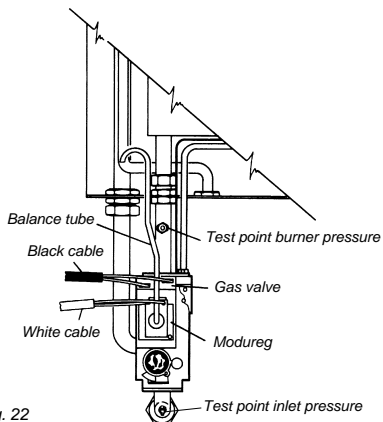

Fig. 22
- Loosen the screw in the burner pressure test point (fig. 22) and attach a gauge.
- e. Disconnect one of the wires from the «Modureg» (fig. 22), this will reduce the burner to minimum which should read 2.7 mbar \pm 0.5 mbar. If the burner pressure is not as stated check the inlet working pressure (fig. 22) which should be minimum 20 mbar. If that is correct, consult Ferroli. No attempt should be made to alter D.H.W. burner pressure.